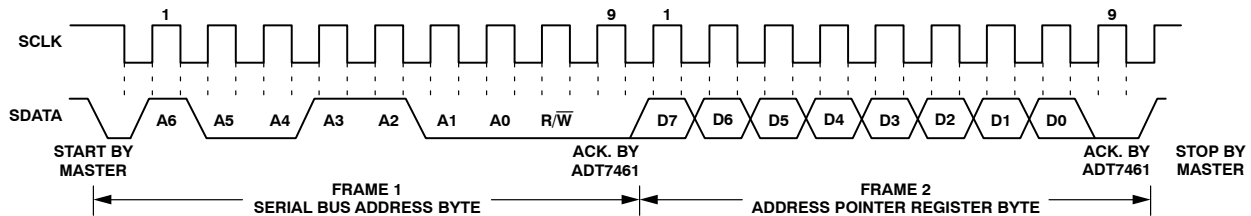

Figure 17. Writing to the Address Pointer Register Only
1. If the ADT7461's address pointer register value is unknown or not the desired value, it is necessary to set it to the correct value before data can be read from the desired data register. This is done by writing to the ADT7461 as before, but only the data byte containing the register read address is sent, since data is not to be written to the register. This is shown in Figure 17.
2. If the address pointer register is known to be at the desired address, data can be read from the corresponding data register without first writing to the address pointer register and the bus transaction shown in Figure 17 can be omitted.